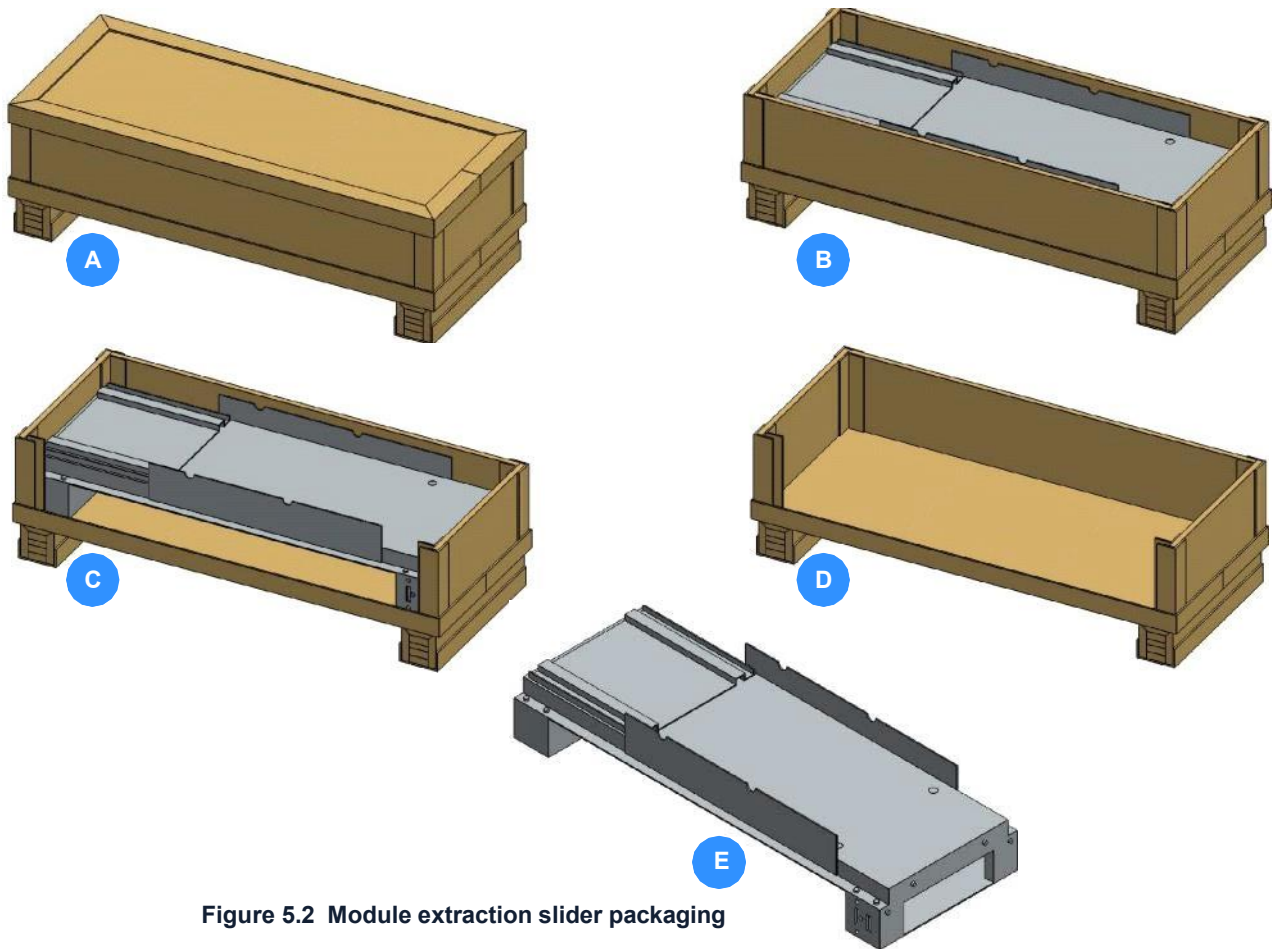

Figure 5.2 Module extraction slider packaging
#### Removing the module extraction slider packaging (see Figure 5.2)
1. Unpack the module extraction slider following the illustrations in Figure 5.2.